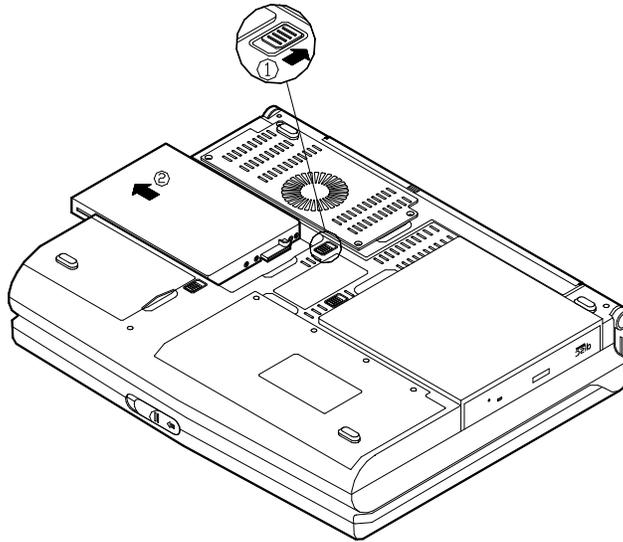

Figure 2-11
4. Press the latch in the direction indicated and slide the floppy disk drive out of the Notebook (Figure 2-11).